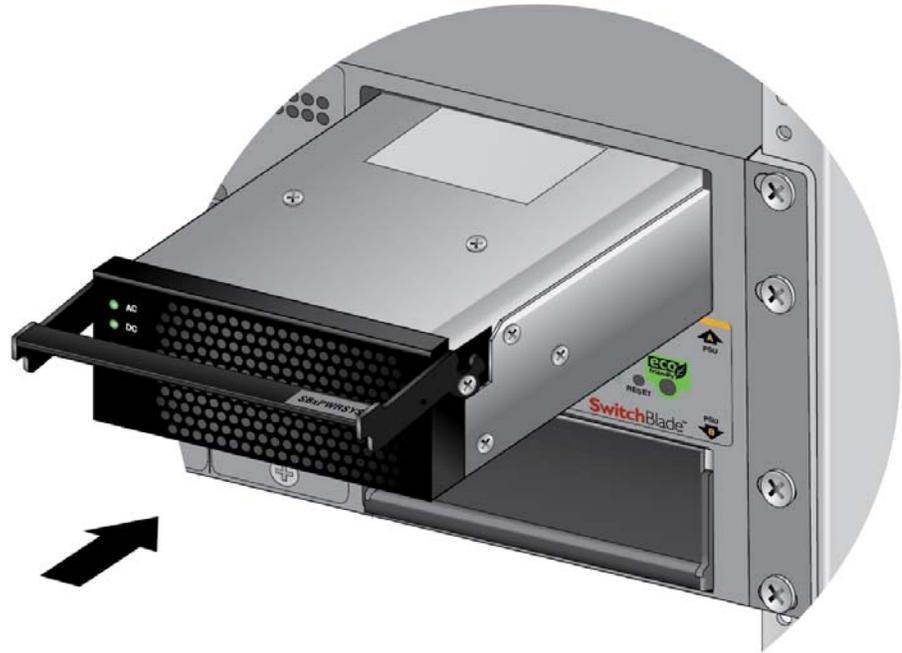

Figure 49. Sliding the SBxPWRSYS2 AC Power Supply into the Chassis
4. Carefully align the power supply in the slot and slide it into the slot until it makes contact with the connector inside the chassis. Refer to Figure 49 on page 103.